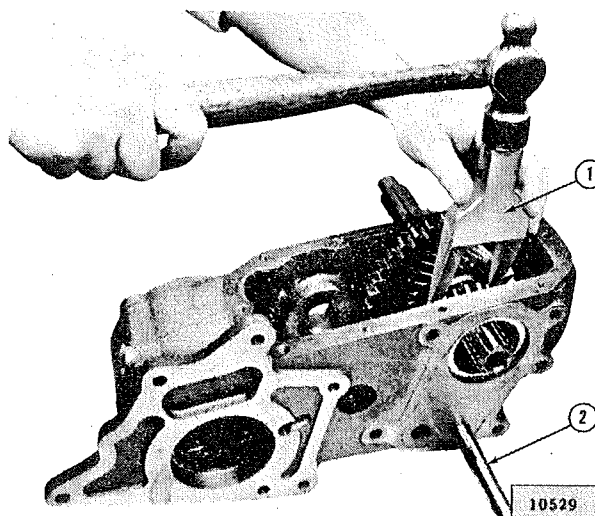

FIG. 116—BEARING CORE REMOVING WEDGE
- i. Drive against the front end of the output shaft (53) with a rawhide hammer to drive the rear bearing cup (55) from the case. Wedge the front bearing cone and roller assembly (59) from its seat on the shaft as shown in Fig. 116. Place Tool W-141 on the output shaft between the front bearing and the output shaft gear (50). Use a rawhide hammer to drive against the rear end of the output shaft to remove the front bearing cup (60) from the case. Loosen the snap ring (48) and slide it forward on the shaft. Drive the shaft through the rear of the case. As the shaft is removed, the gears (50) and (51), snap ring (48), and thrust washer (49) will remain in the case and can be removed from the bottom. Remove the rear bearing cone and roller assembly (54) from the shaft by striking the end of the shaft lightly against a wooden block.
- j. Remove the setscrew in the sliding shift fork (34) and remove the shift rod (16).